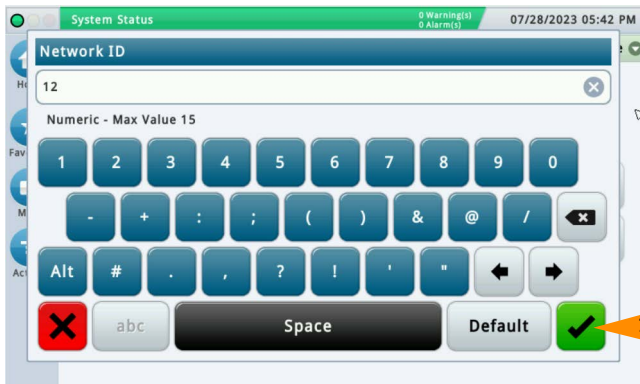

Figure 23. Enter New Network ID
- Enter the matching Network ID and select the ☒ button (item 1, Figure 23).